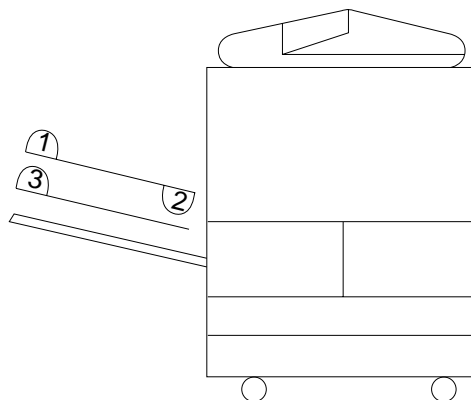

Figure 5-623b
- b. If copies are made of an odd number of originals in reversal delivery and skipping modes, they will be stacked on the copy tray as shown in Figure 5-623b.